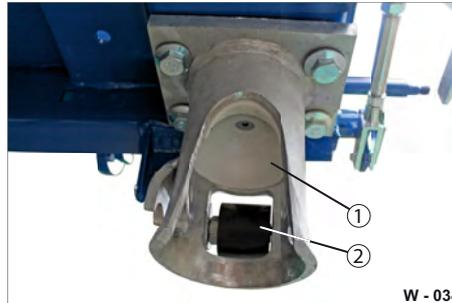

Fig. 34 Opening tilting bearing
- ▶ Clean the tilting bearing ball (Fig. 33/1), the tilting bearing shell (Fig. 34/1) and the roller (Fig. 34/2) with a clean cloth.